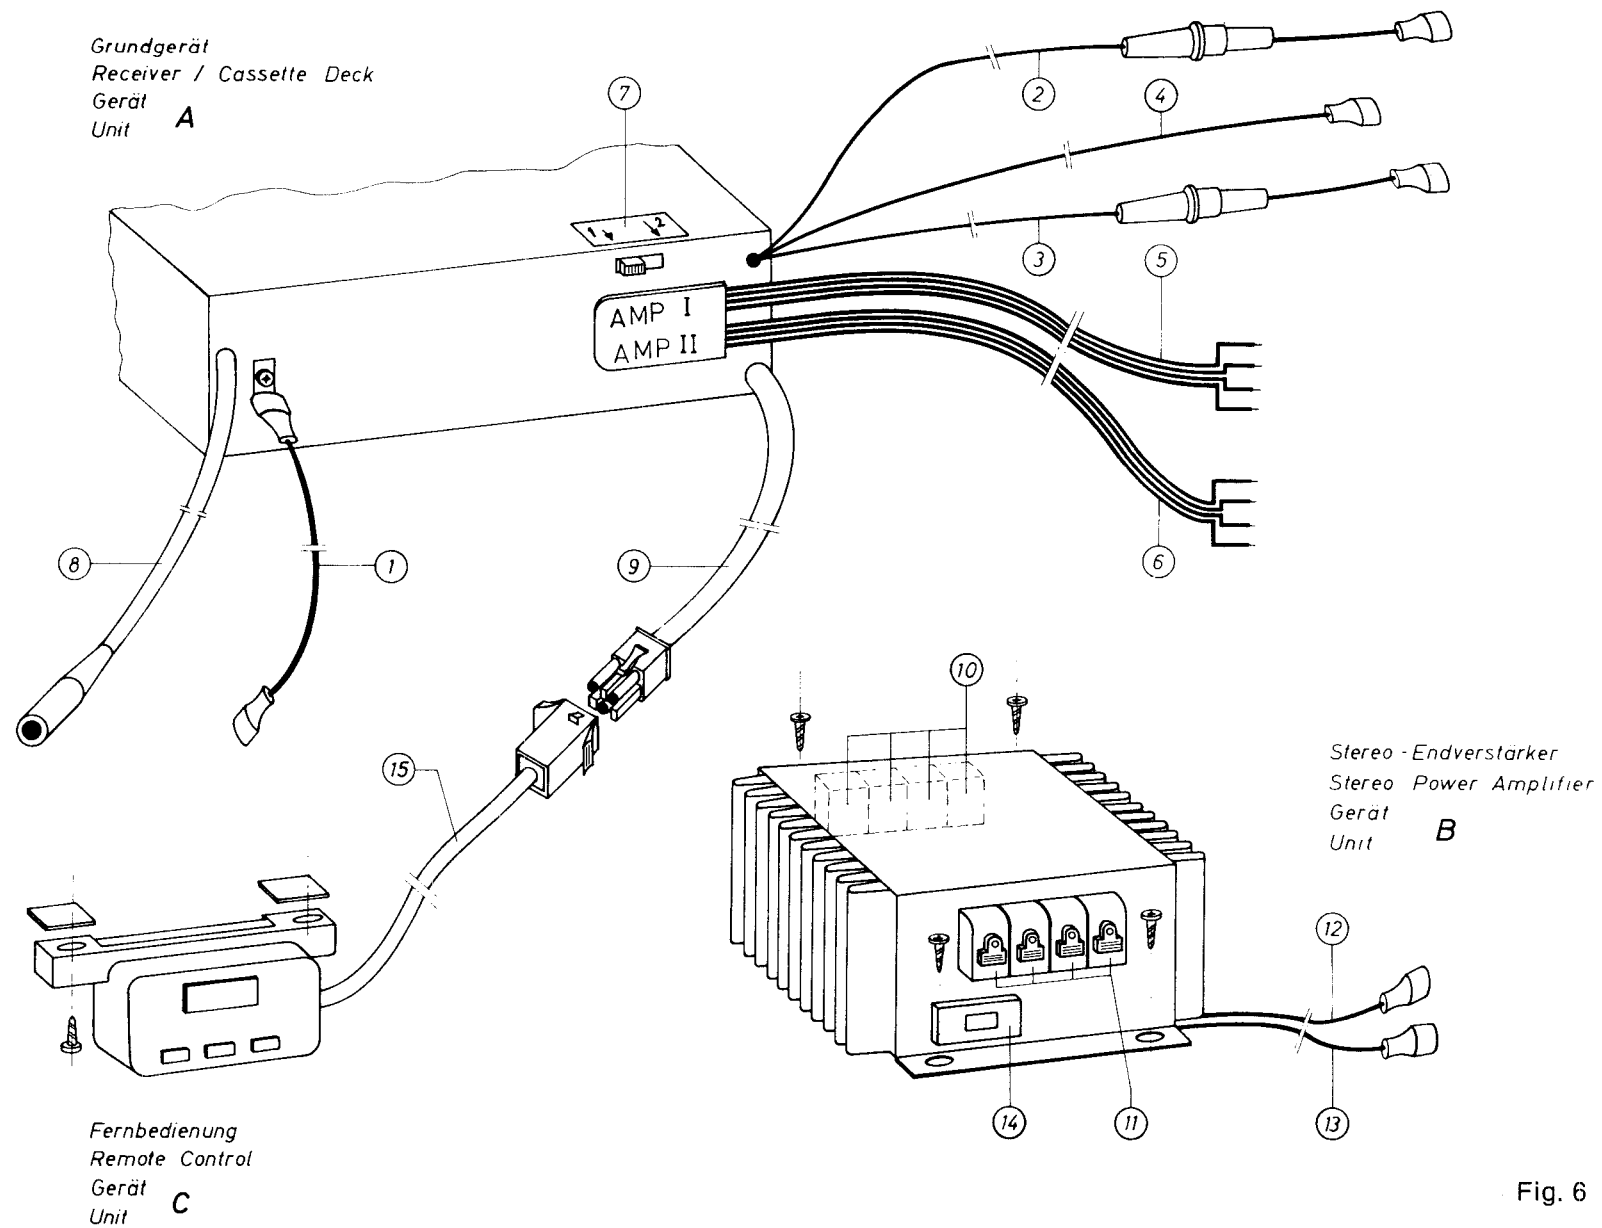

Fig. 6
A small slider on the rear panel of the AX-5700 allows the selection between one or two power amplifiers (Pos. 7 in Fig. 6).
8. Connection of the (+)cabling to the ignition key cannot be recommended for top-quality stereo systems. This connector is not absolutely interference-free (distributor impulses!). However, should the Car Stereo System be connected to the ignition key, this can be done with an extra relay through the current of the blue 12 voltage cables (Pos. 2 in Fig. 6) and over the ignition key (clamp 15).
The basic unit (receiver/cassette deck) can be connected to the power amplifier with a colour coded four-pole wire (for example: doubled two-strand). Pay attention to proper orientation. It is advisable to use a colour coded (Pos. 5 in Fig. 6) four-pole wire which is available at FISHER HiFi Europa Vertriebs-GmbH or at your FISHER speciality dealer. Improper connection will cause malfunction but damage will not occur.
Model AX-5700: If the remote control is installed, connect with the six-pole plug and place control in a convenient location (Pos. 9 in Fig. 6).
4. Is a motor antenna used connect the trailing cable to the matching cable of the basic unit (Pos. 4 in Fig. 6).